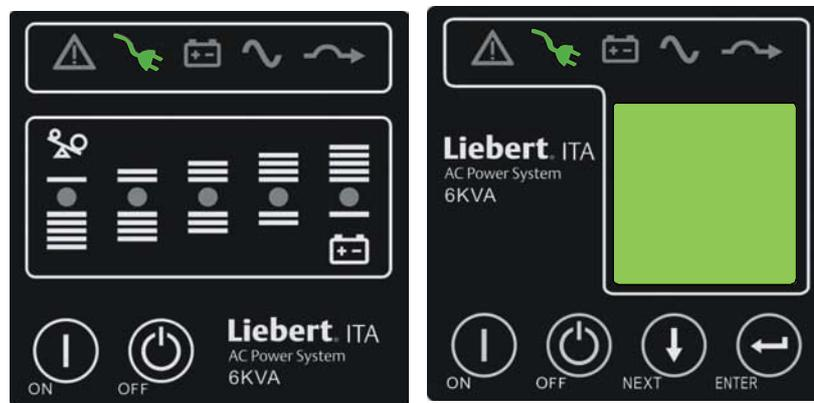

Figure 2-29 Indicators' status
2. Power on the UPS to enter the self-test status (including the battery self-test), all the LED indicators blink, and the buzzer beeps at intervals. After the self-test, the UPS enters the standby mode, and the mains indicator turns on, as shown in Figure 2-29.